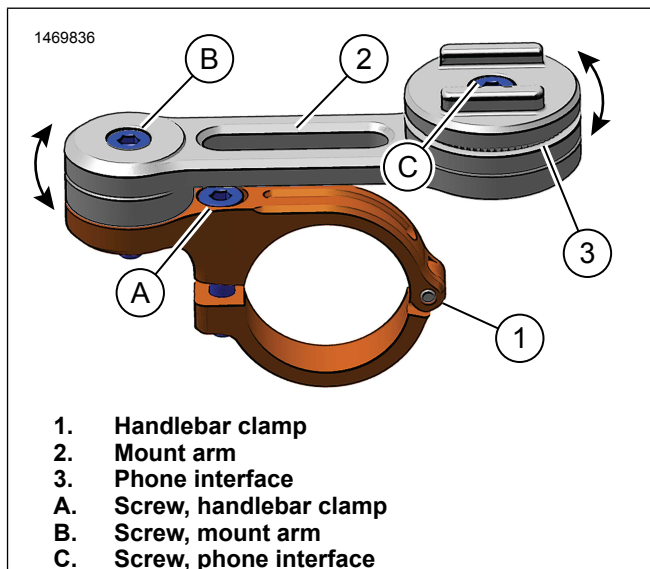

Figure 3. Pivot Points
2. Figure 3 Loosen screw (B).
4. Tighten screw (B).
5. Figure 3 Loosen screw (C).
7. Tighten screw (C).